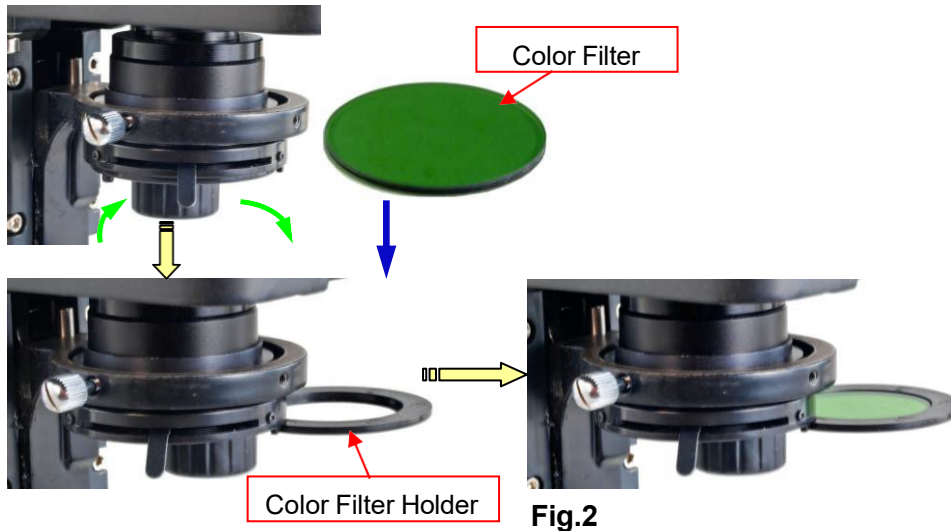

Fig.2
- 2) Place the filter into the color filter holder as shown in **Fig. 2**, swing the holder in.